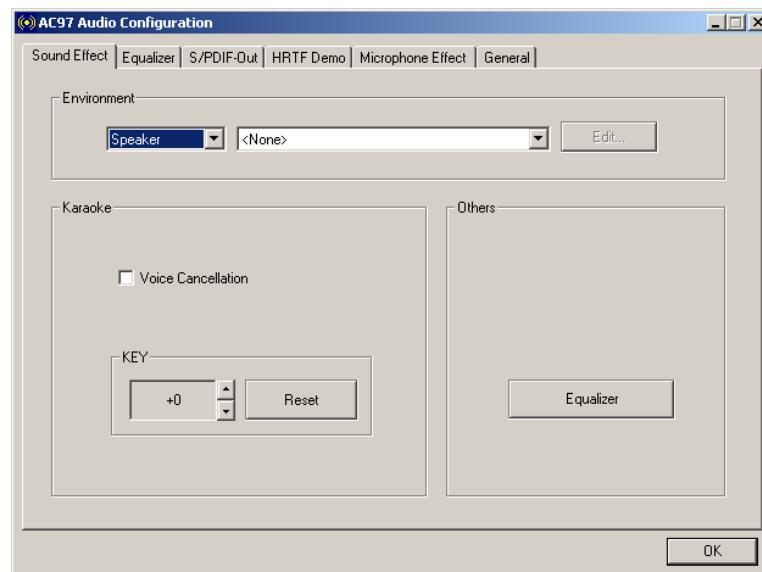

Figure H-3: Sound Effects Manager (ALC203)
Step 3: The sound effect manager appears (Figure H-3).
The Sound Effect Manager shown in **Figure H-3** is for the RealTek ALC203 audio CODEC. Different CODECs may have different sound manager appearances.
The **Sound Effects Manager** enables configuration of the items listed below. To configure these items click the corresponding menu tab in the **Sound Effects Manager** (**Figure H-3**).